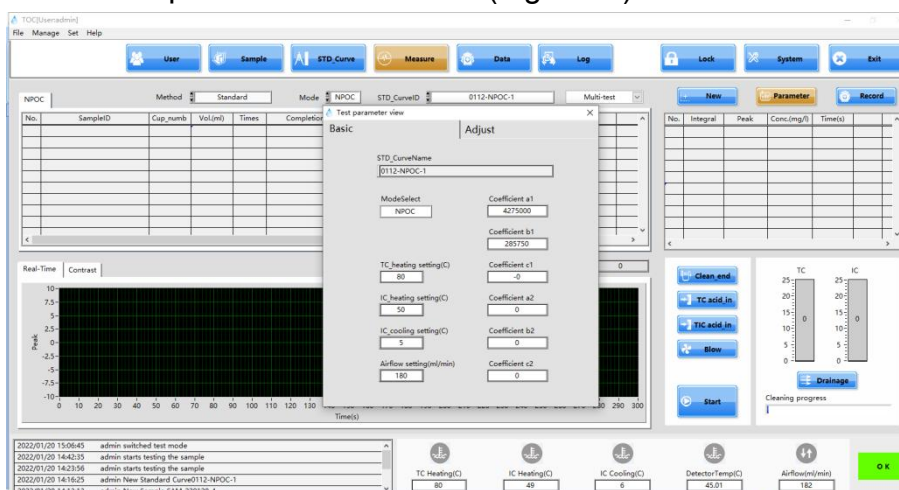

Fig 4.45
Step 1 Click  to enter the sample test interface. The software automatically presents the line used in the last test and a pop-up window displays the basic parameters of the line (Fig. 4.45).